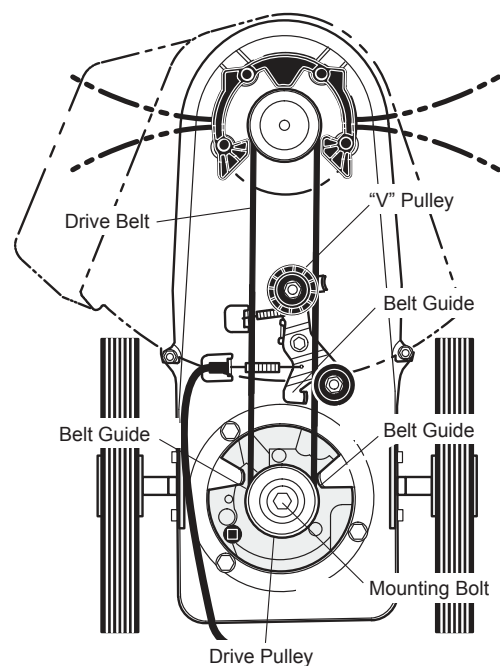

Figure 17
7.6.1.3 Remove the "V" Pulley from the idler bracket (See Figure 17).
76.1.7 Check the routing of the drive belt. Make sure the drive belt is inside of all of the belt guide and that the belt is not twisted (See Figure 17).